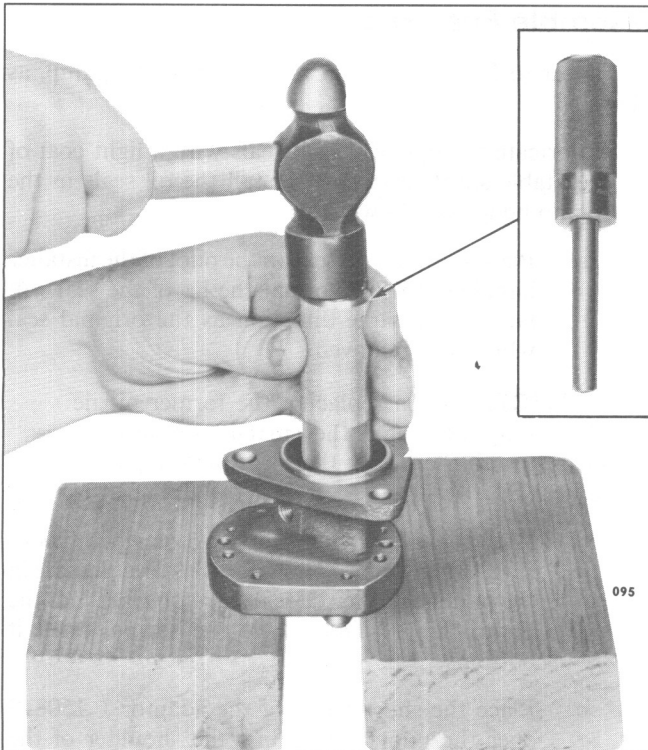

Fig. 8 – Installing Inner Oil Seal using Tool J 1508-8
- b. With the pump body supported on wood blocks (Fig. 8), insert the pilot of the installer handle in the pump body so the seal starts straight into the pump flange. Then drive the seal in until it bottoms.